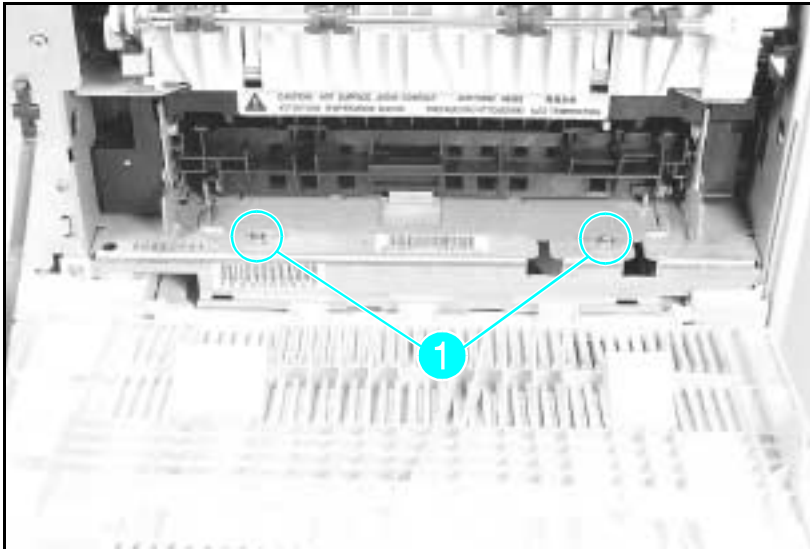

Figure 6-20 Fuser Assembly Screws
- 2 Remove the (2) screws that hold the Fuser to the printer frame (see Figure 6-20, callout 1).